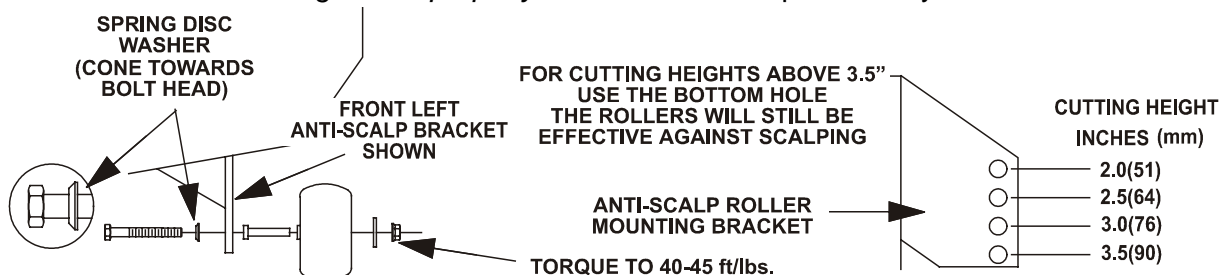
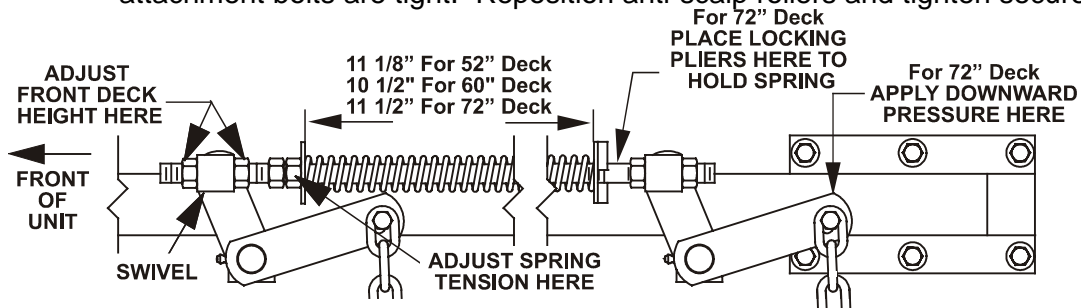

**FIG. 9
FIG. 11
- c) Raise the deck lever to the transport position (also the 5" cutting height position). See Fig 9.
- c) Check tire pressure of all four (4) tires. If needed, adjust to 13 psi (90 kPa).
- e) Raise the deck to the 5" height position (also transport position) and take all force off of the two large deck lift springs by loosening the nuts at the front of each spring. See Fig. 11.
For 72" units – Lower the deck to the 1-1/2" height position. Force the left rear deck support arm downward about 1/4" to get the deck to rest at the 1-1/2" height position. Place locking pliers between the rear swivel and spring stop to hold the deck in this position. See Fig. 11.
- l) Raise deck lift lever to the 5" cutting height position See Fig 9. Adjust spring compression until proper distance is obtained between the two large washers (See Fig 11). Adjustment is made by turning the nut at the front of each spring (clockwise will shorten the spring, counter-clockwise will lengthen the spring). Lock in position with jam nuts.